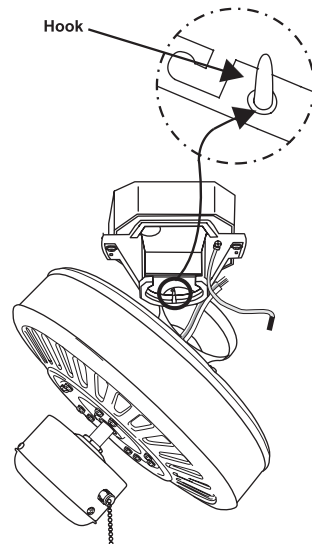

Figure 10
6. Hang the fan on the hook of the hanger bracket. Be certain that the canopy is fully locked into hook as shown in Fig. 10. This will allow you to make the electrical connections.